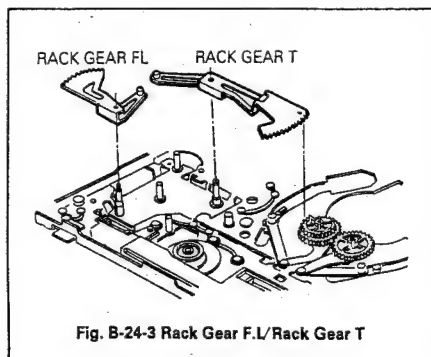

Fig. B-24-3 Rack Gear F.L/Rack Gear T
- 3) Remove the Rack Gear F.L.(Fig. B-24-3)
- 4) Remove the Rack Gear T.(Fig. B-24-3)